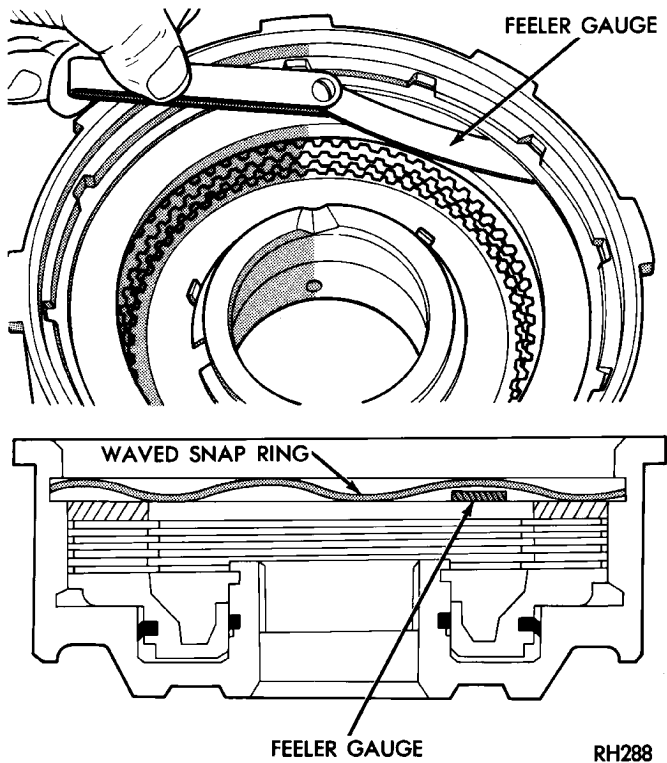

Fig. 169 Typical Method Of Measuring Front Clutch Pack Clearance
(14) Install reaction plate followed by waved snap ring.
(15) Check clutch pack clearance with feeler gauge (Fig. 169). Clearance between waved spring and pressure plate should 1.78 - 3.28 mm (0.070 - 0.129 in.). If clearance is incorrect, clutch plates, clutch discs, snap ring, or pressure plate may have to be changed.